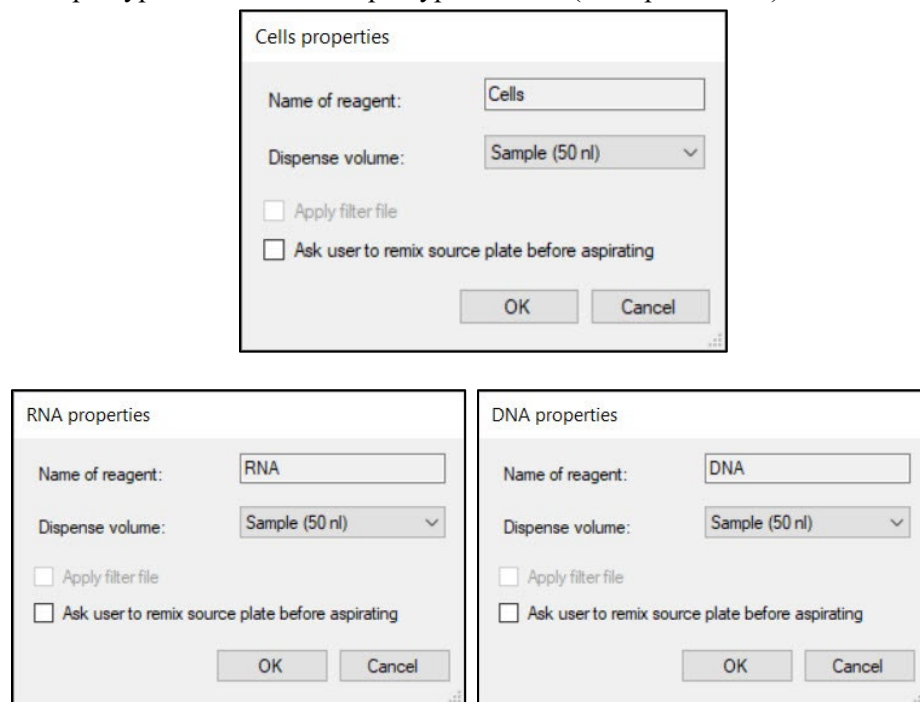

Figure 30. The three sample *Properties* windows in the application editor dispense [Add dispense step] workflow.
- a. "Name of reagent" – Cannot be edited for the sample properties. This will display as illustrated in the screenshots of Figure 30.